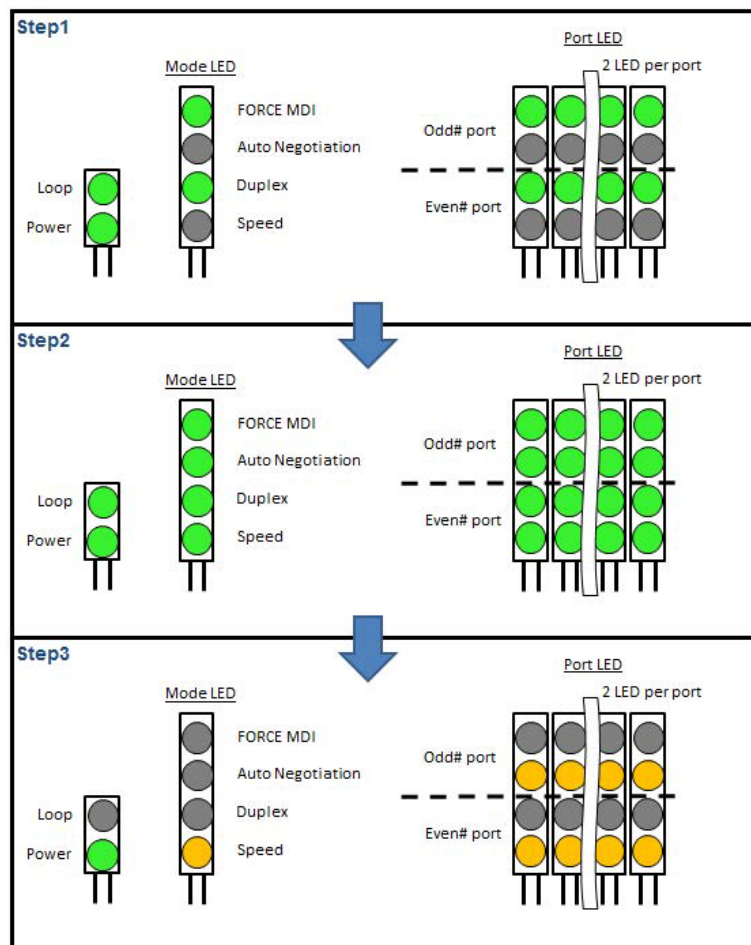

Figure 26. Initial Power-ON Sequence
3. The switch LEDs display an initial Power-ON sequence. See Figure 26.